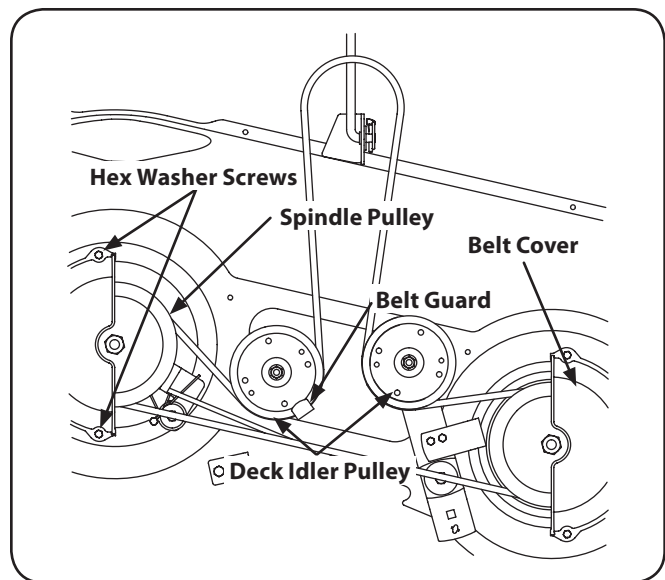

Figure 7-9
2. Remove the belt covers by removing the hex screws that fasten them to the deck. See Fig. 7-9.
4. Carefully remove the deck belt from around the two spindle pulleys and the two deck idler pulleys. See Fig. 7-9.
5. To place the new belt, begin by routing the belt around the two outer spindle pulleys as shown in Fig. 7-9.
6. Then route the belt around the two deck idler pulleys as shown in Fig. 7-9.